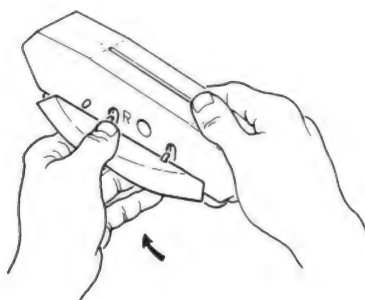

Figure 10
- b) Remove the old wings by bending the wings up toward the sides of the cleaner, and lift them off their hooks (*see Figure 10*). If any of the wing hooks are broken, take the Navigator to your dealer for pod replacement as the unit will not function properly if the wings are not properly attached.